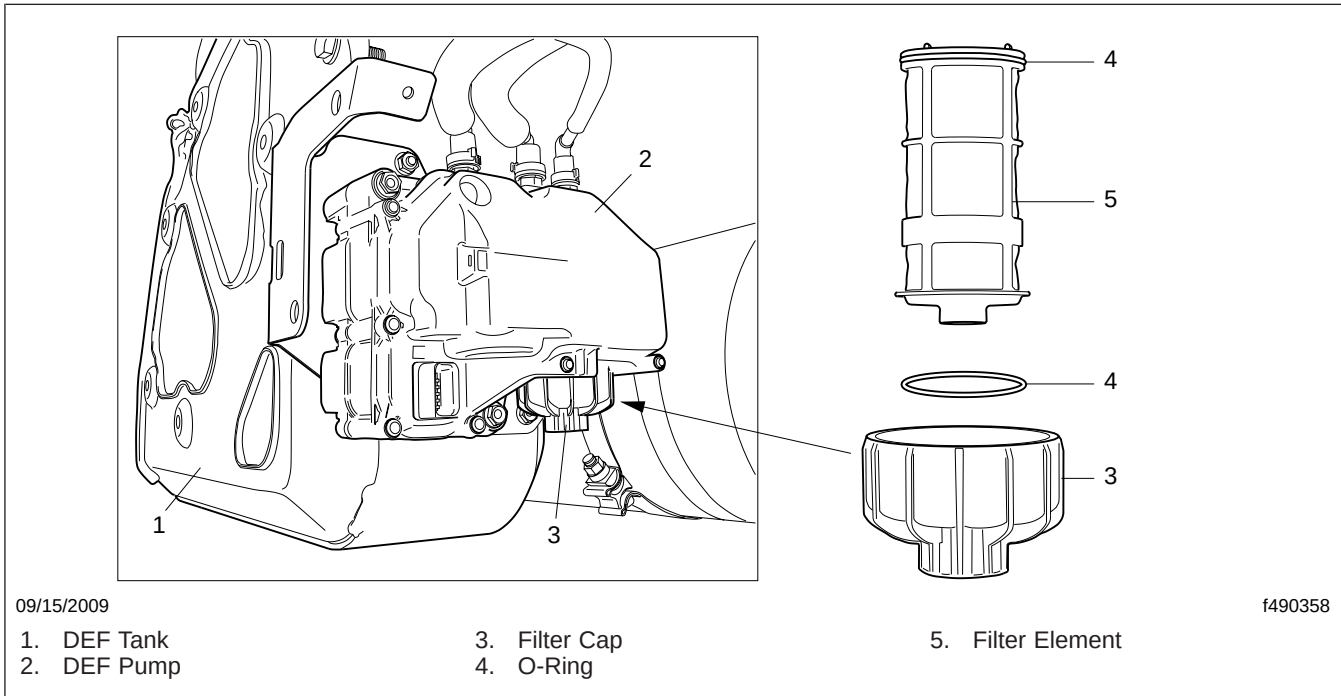

Fig. 2, DEF Filter Replacement, Cummins Engine
4. Unscrew the filter cap, then remove and discard the filter element. See Fig. 2.